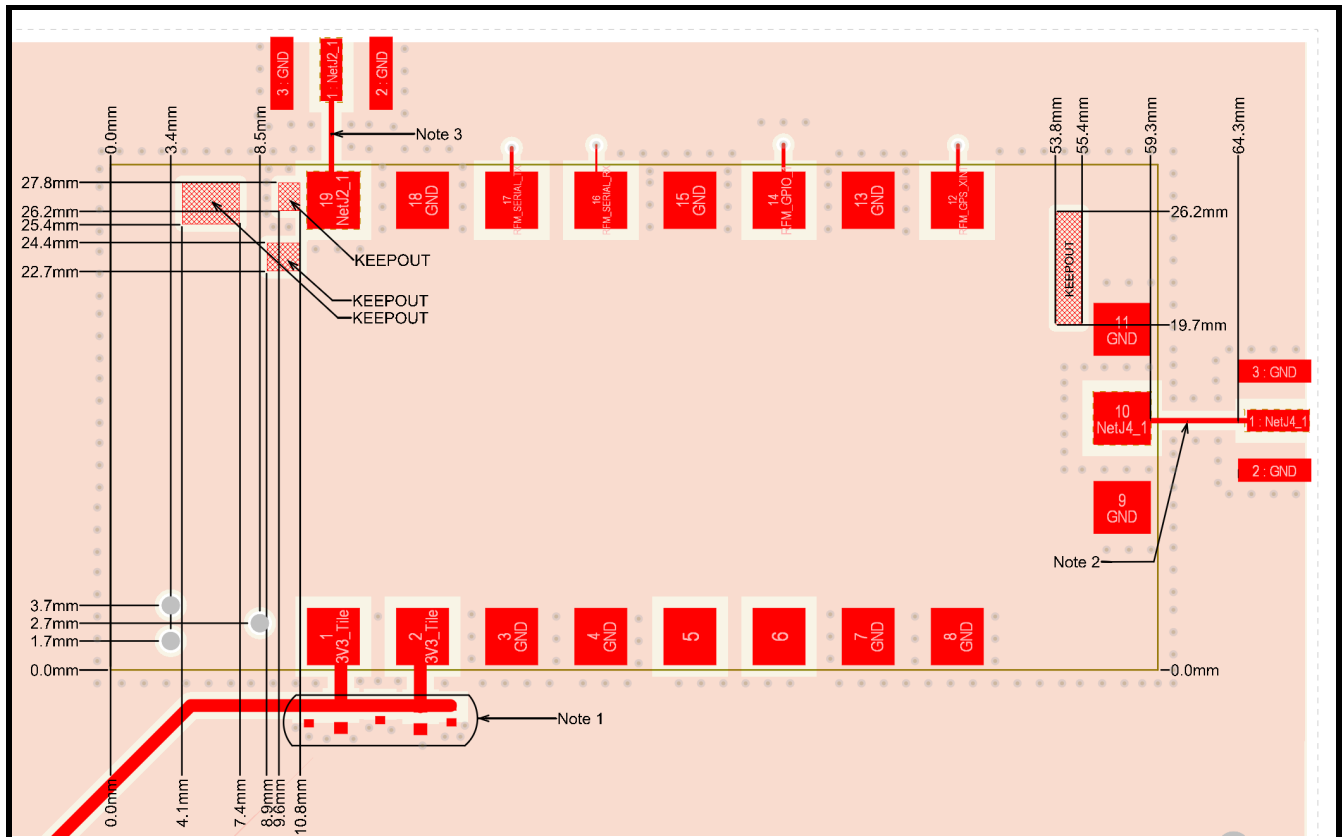

Figure 11: RF trace routing and keep out area for RF output (top layer).
The Tile is certified with a PCB edge SMA connectors [\[Samtec Part Number SMA-J-P-H-ST-EM1\]](#) for the RF and GPS outputs, with a micro-strip trace layout (along with copper keep-out areas) as shown in **Figure 11**.
- Place GND vias close to module GND pads as possible. An example layout can be found in **Figure 11**.
- Ensure there is no copper in the keep-out areas on any layer of the host PCB as can be seen in **Figure 11**.